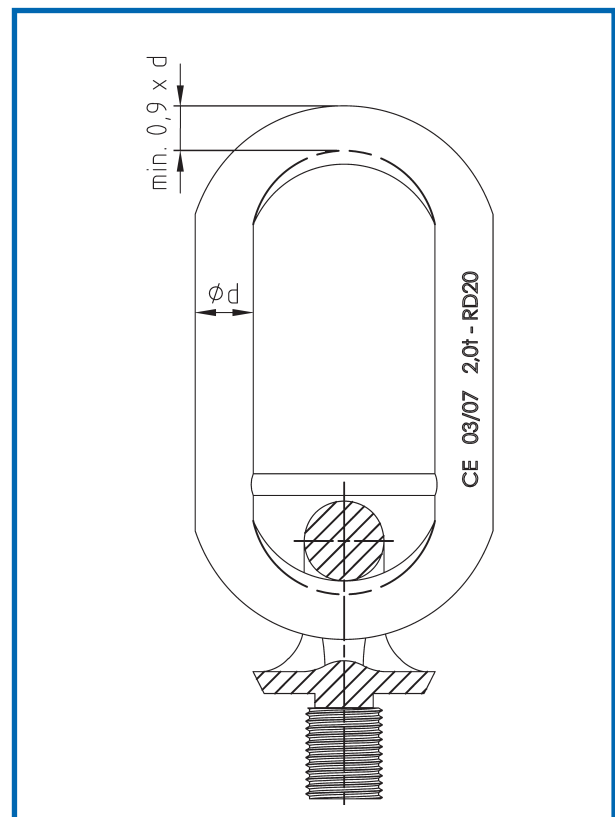

Figure 25: Wear on Chain Link
- Damage or heavy wear at the drop point (figure 25)